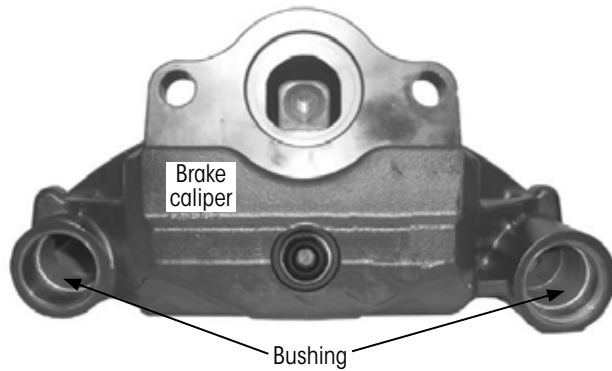

Figure 57: Caliper rear view
3. **Place** the brake caliper on a firm base for pressing out the bushings (Figure 57). The back of the brake caliper must face upwards.